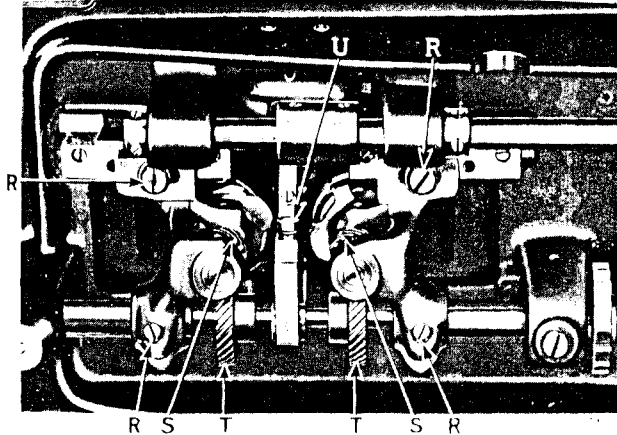

Fig. 20. Adjustment of Hook Saddles
Loosen the two screws in the hub of each hook driving gear (T, Fig. 20) and tap this gear to the right or left on the hook driving shaft until the point of the hook is at the centre of the needle. Tapping to the right gives an earlier hook timing, and to the left a later hook timing. Securely tighten the two set screws in each gear (T).
Turn the machine pulley over toward you until the points of the sewing hooks are at the centres of the needles. Loosen the two screws (R, Fig. 20) holding each hook saddle underneath the bed of the machine and move the hook saddles to the right or left, as may be required, until the points of the hooks are as close to the needles as possible without striking them, then securely tighten the four screws (R).
Remove the throat plate, feed dog and the bobbin case openers. Loosen the two screws in each hook shaft gear (S, Fig. 20) and lift out the sewing hooks.
Remove the throat plate; clean the lint and dust from between the feed points and replace the throat plate; tip the machine back and turn the machine pulley towards you until the feed dog is at its highest position; loosen screw (U, Fig. 20) in the feed lifting cam fork on the feed bar and raise or lower the feed dog, as may be required, and retighten the screw (U).